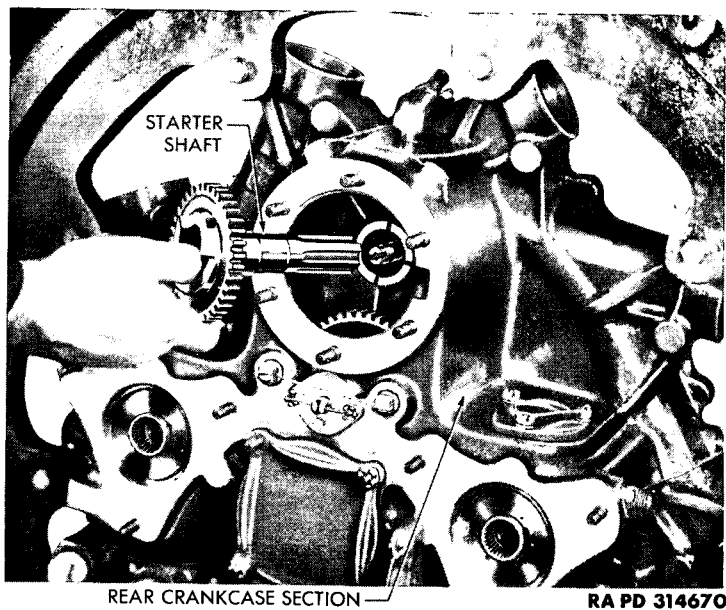
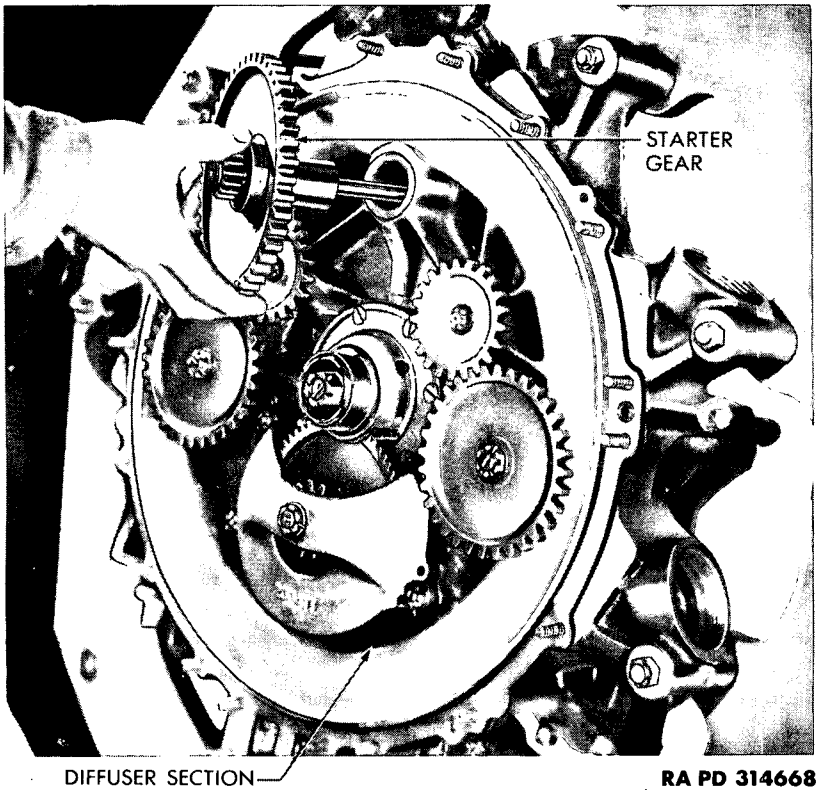

Figure 77 — Removing Starter Shaft
Figure 78 – Removing Starter Gear
a. Remove Starter Gear and Shaft. Remove starter shaft nut already loosened (par. 9 n). Working from the rear of the rear crankcase section, pull starter shaft from bushing in rear section (fig. 77). Working from front of diffuser section, pull starter gear from bushing in diffuser section (fig. 78). **CAUTION:** *When starter shaft nut is removed, both starter gear and shaft are loose. Be sure that neither assembly falls out of the crankcase section.*